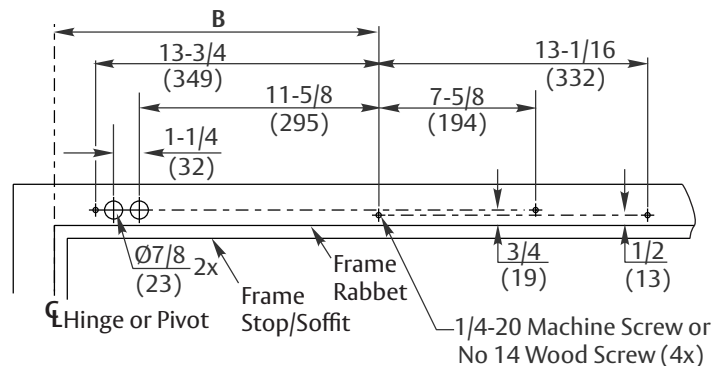

Figure 3 Left Hand Shown
4. Using detailed template on page 15, prepare four (4) holes for 1/4-20 machine screws or 14 x 2-3/4" wood screws. Blind rivet nut (by others) is suggested for unreinforced hollow metal or aluminum frames. (Figure 3)
5. For concealed mounted conduit (if applicable): Prepare two (2) 7/8" (22mm) diameter holes for conduit, for power input and for switch/ sensor wires.